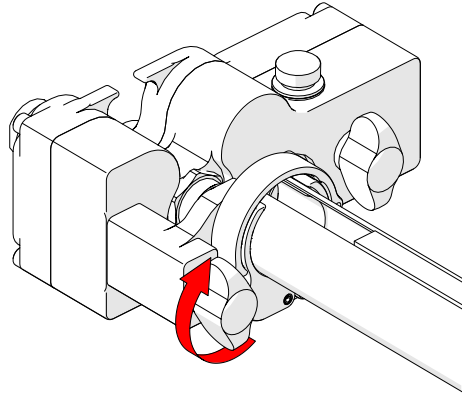

Fig. 280 - Tighten wing knob
2. Tighten the cable management clamp wing knob (Fig. 280).